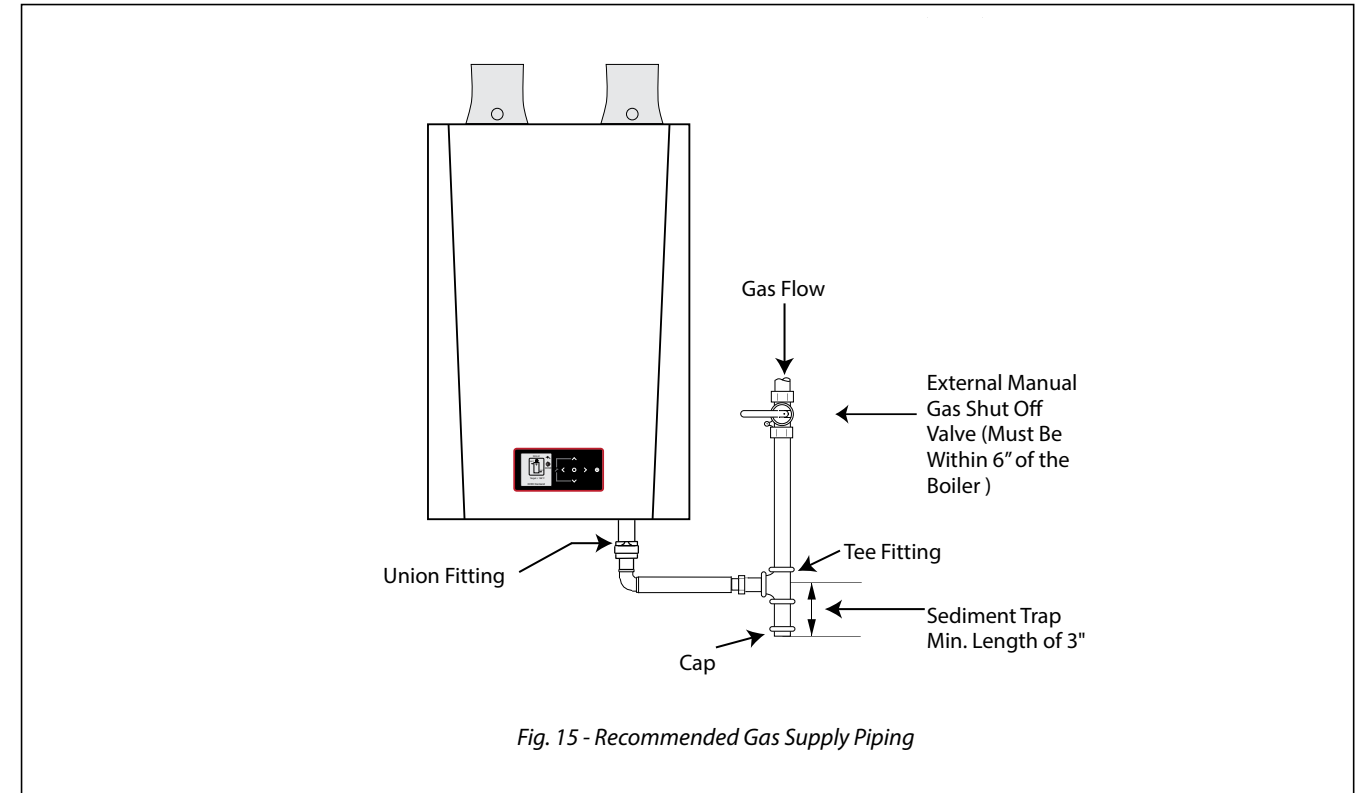

Fig. 15 - Recommended Gas Supply Piping
- Install a manual shutoff valve in the gas supply piping as shown in Fig. 15 above. For installations in Canada, the installer must tag and identify the main shutoff valve.
- Install a sediment trap (drip leg) on the gas supply line prior to connecting to the INSTINCT gas train as shown in Fig. 15 above.